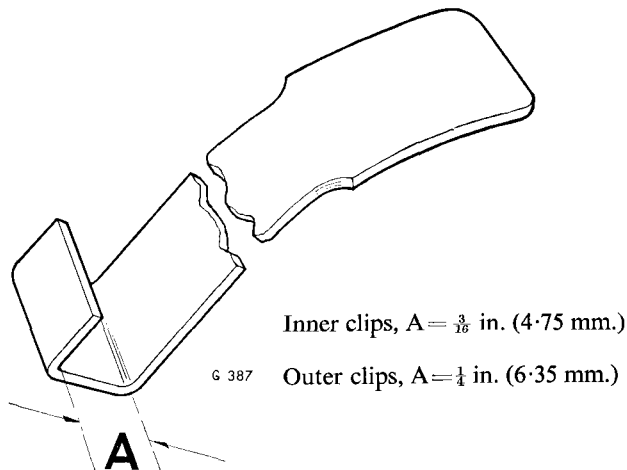

Fig. 37 Weatherstrip clip tool
- (a) Refit the weatherstrip using an easily made tool shown on (Fig. 37).